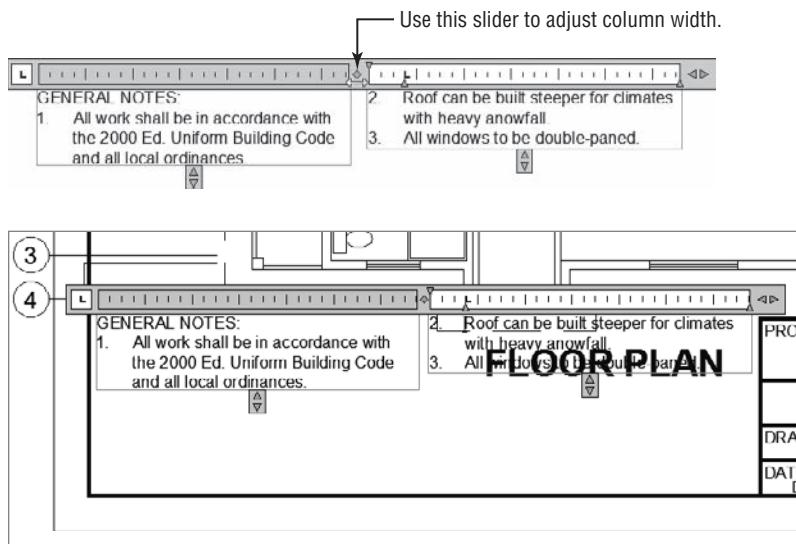

FIGURE 8.60 Resizing columns using the Mtext Editor (top), and positioning text (bottom)
- 18.** Use the diamond grip between the two columns to adjust the width for both columns so they will fit along the lower edge of your drawing (see left Figure 8.60).
Your GENERAL NOTES text block should look like the right image in Figure 8.60.